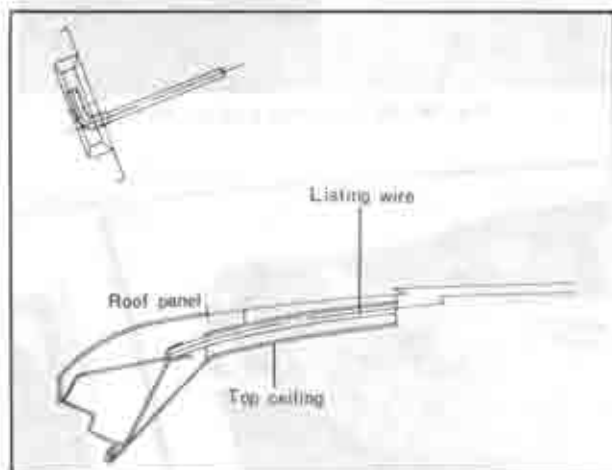

Fig. 14-90 Listing wire
3. Insert both ends of the listing wires to their proper positions in successive order beginning from the rear as shown in Fig. 14-90.